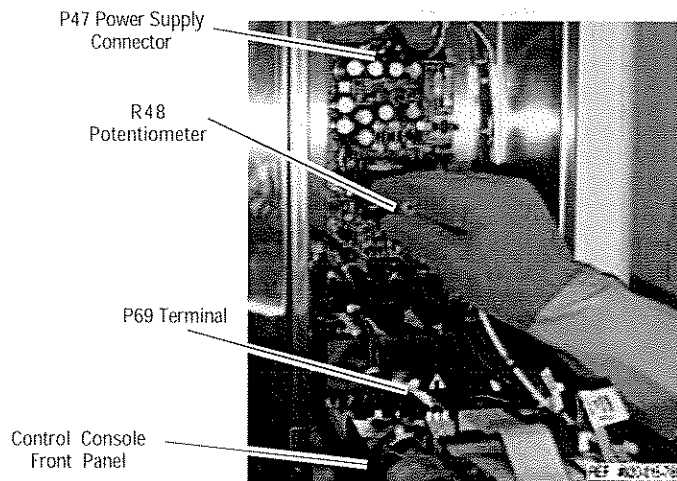

Figure 7-3. Adjust to 5.0 Volt DC
14. On PC Board Interface, verify voltage reading from terminal P69 (between cables 73 and 75) is 5.0 - 5.1 V DC. Using circuit R48 Potentiometer, adjust voltage value to 5.0 V DC. See Figure 7-3.